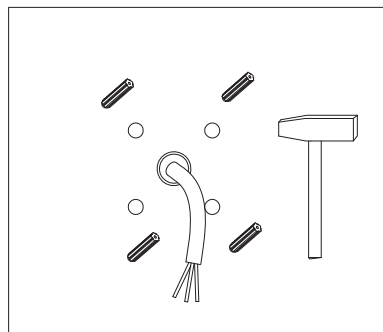

Figure 8
**STEP 5:** Fix rubber plugs into holes (Figure 8)